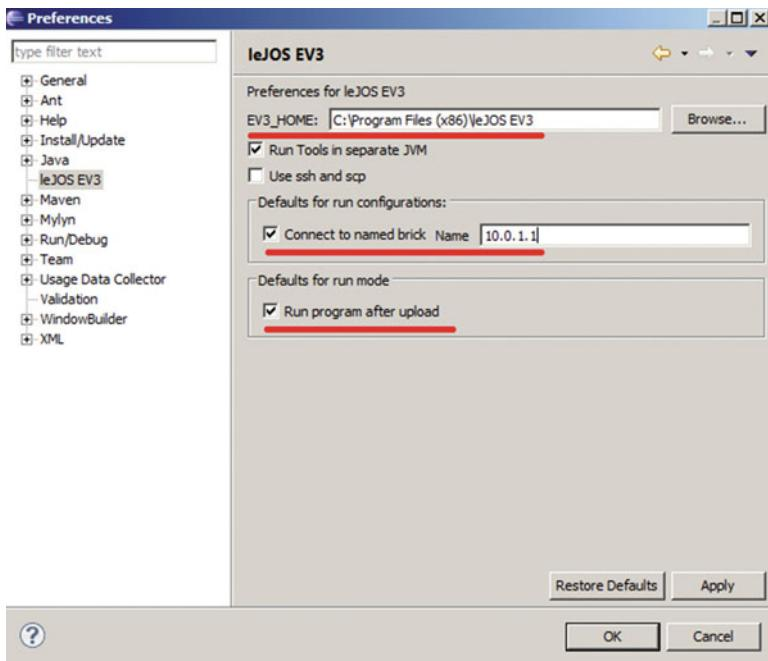

Figure 1-23. Preferences for the leJOS EV3 plug-in
- Eclipse will automatically look for the EV3_HOME environment variable to locate leJOS EV3. Check to make sure that the preferences are what you like. Select Windows -> Preferences and then leJOS EV3 from the list. If the *leJOS EV3* directory is not correct, either type in the location or browse to it. Make sure that you browse to the main directory and not one of its subdirectories. After that, you need to double-check if they are the same as the items illustrated in Figure 1-23.